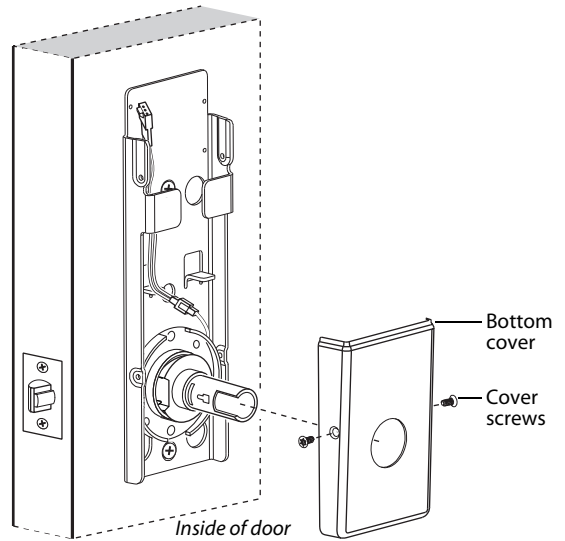

Figure 17 Installing the bottom cover
- 2 Use two cover screws to secure the cover to the side of the fire plate, as shown in Figure 17.